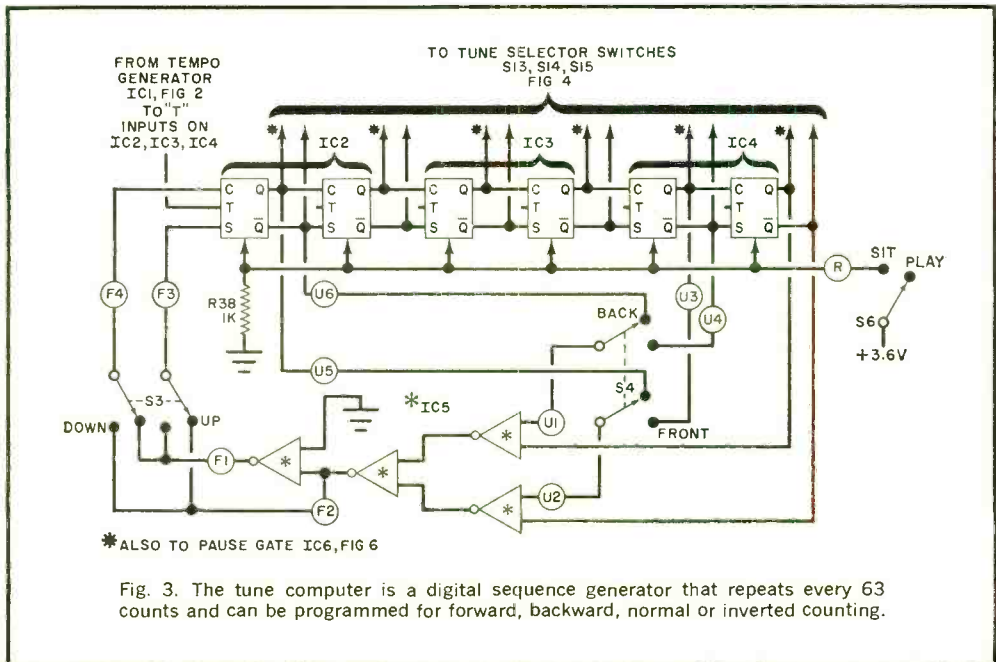

Fig. 3. The tune computer is a digital sequence generator that repeats every 63 counts and can be programmed for forward, backward, normal or inverted counting.
**Tune Computer.** As shown in Fig. 3, the computer is a "pseudo random sequence generator." Like a random noise source, the computer sequences appear to be totally unrelated. However, this circuit can be programmed to return to exactly the same random sequence at any time. The logic consists of a six-stage shift register (*IC2*, *IC3*, and *IC4*) and an EXCLUSIVE OR gate (*IC5*). The shift register is toggled by the tempo generator described above.